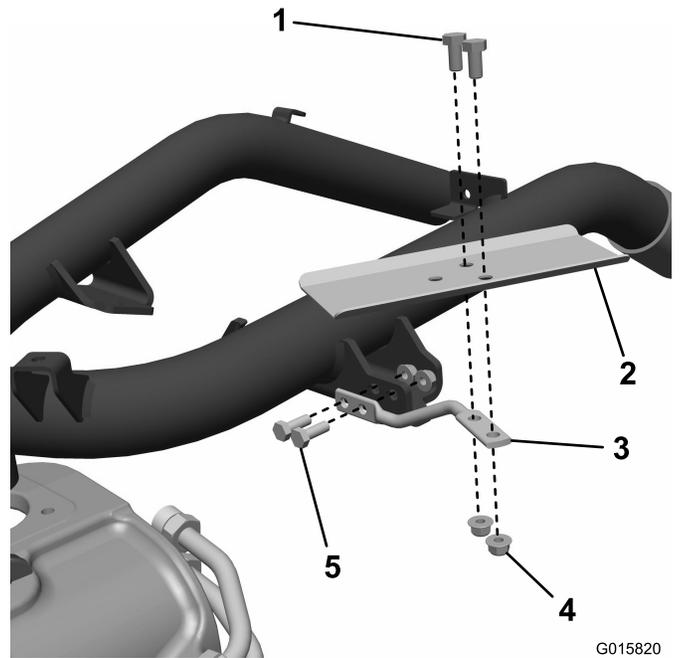

Figure 6
1. Install the wire form to the frame and secure it with 2 bolts (5/16 inch) and 2 nuts (Figure 6).